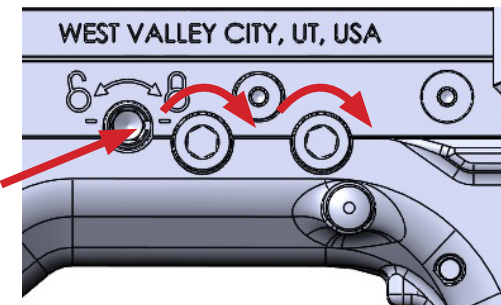

Fig. a-7
9. Rotate the rifle to the left side. Using the 5mm hex wrench side of the multi-tool, rotate the barrel lock screw to the "Locked" position. (Fig. a-7)
10. Tighten and torque the two 5mm barrel retention screws to 80 in/lb. (Fig. a-7)